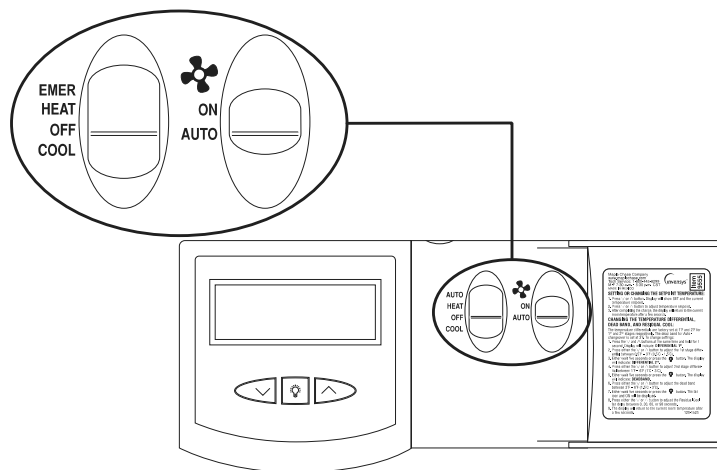

Figure 2
2. Place EMER-HEAT-OFF-COOL in OFF position (Figure 2).
3. Place ❁ -ON-AUTO switch into AUTO position (Figure 2).